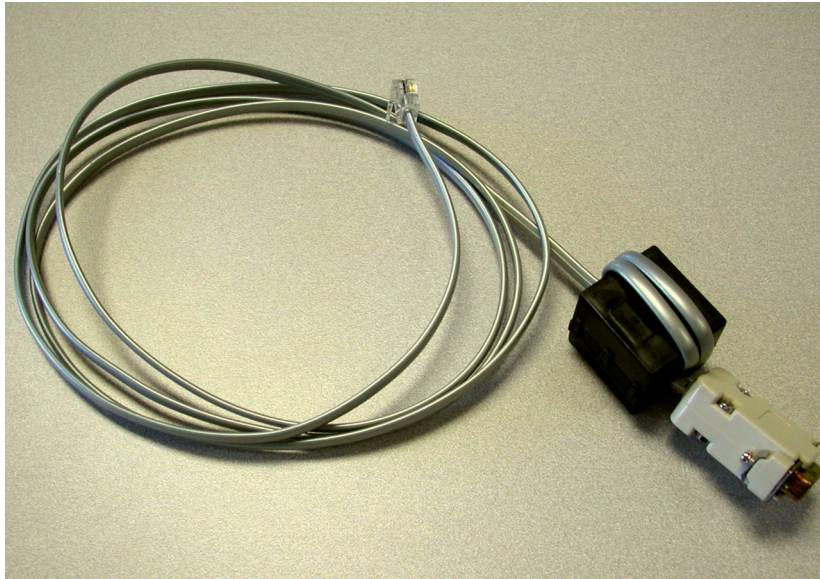

Figure 4: I/O Communication Cable for Remote Connections
- Connect an RS-232 cable (I/O communication cable) between the RS-232 connector on the Temperature Indicator and the host computer, using the cable supplied. See Figure 4 a picture of the cable. See Table 3 for the cable connection point.